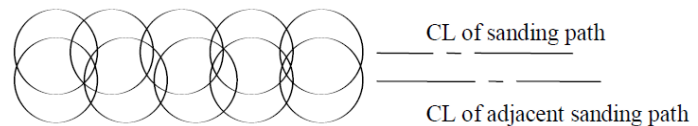
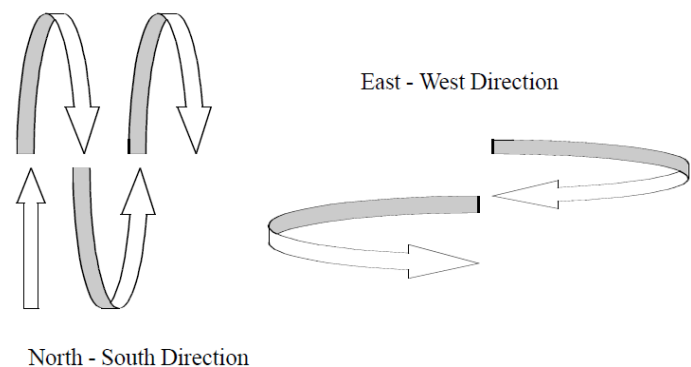

Figure B-1
Figure B-2
2. Sand the entire top to a uniform finish. Be sure to overlap sanding strokes by at least half the pad diameter and cover the entire surface. See Figure B-1. Care must be taken not to concentrate too heavily over the seam area, as this may develop a different look in this area (especially with particulate colors).
The pattern shown in Figure B-1 should be followed across the sheet in a “North - South, East -West” pattern as shown in Figure B-2.